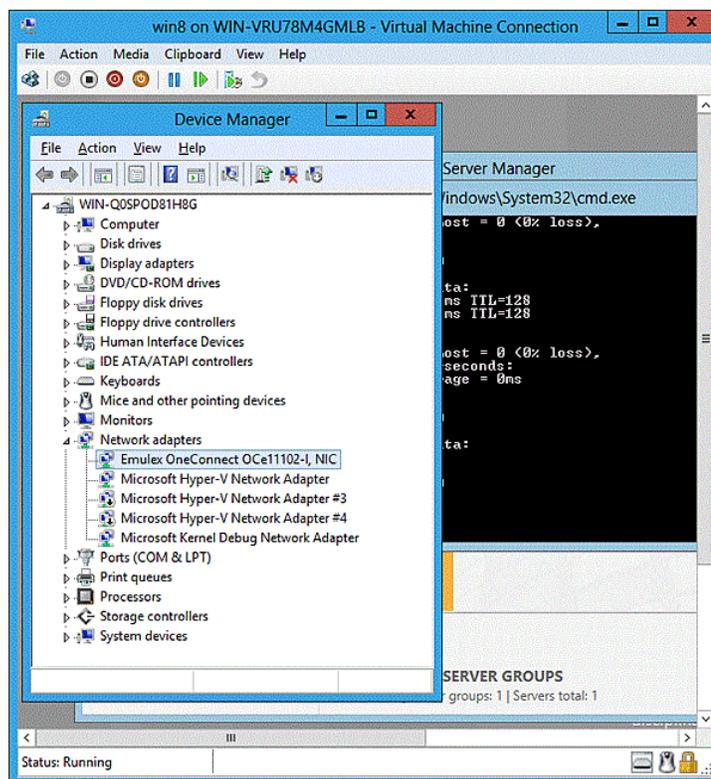

Figure 3-4 Device Manager for Windows Server 2012
- Click **Device Manager**. The Device Manager opens. See Figure 3-4 on page 70.
2. Click **Device Manager**. The Device Driver opens. See Figure 3-4 on page 70.